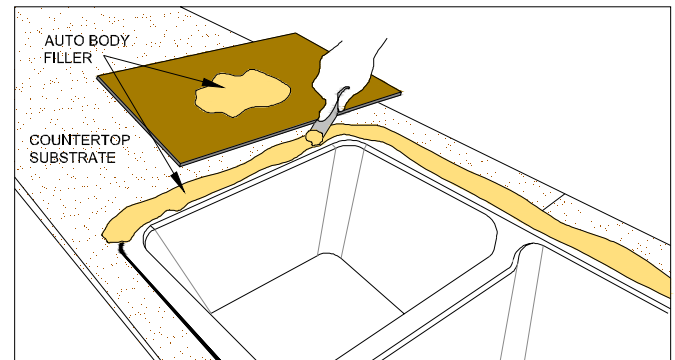

Figure 15C
- Apply the filler into the gap between the sink and the substrate. Allow mixture to cure or harden completely. (FIG. 15C)